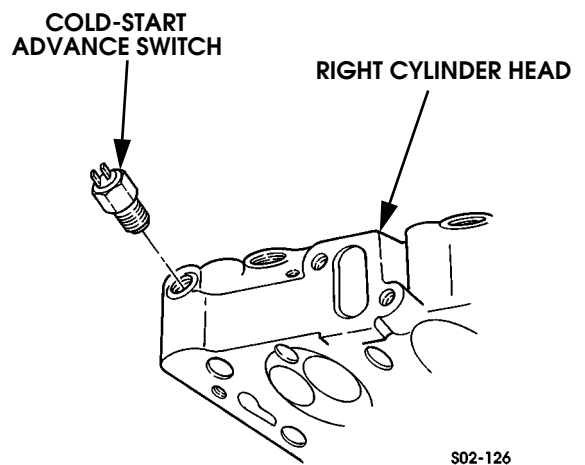

Figure 2-155: Cold-Start Advance Switch Removal/Installation
3. Remove cold start-advance switch (Figure 2-155).